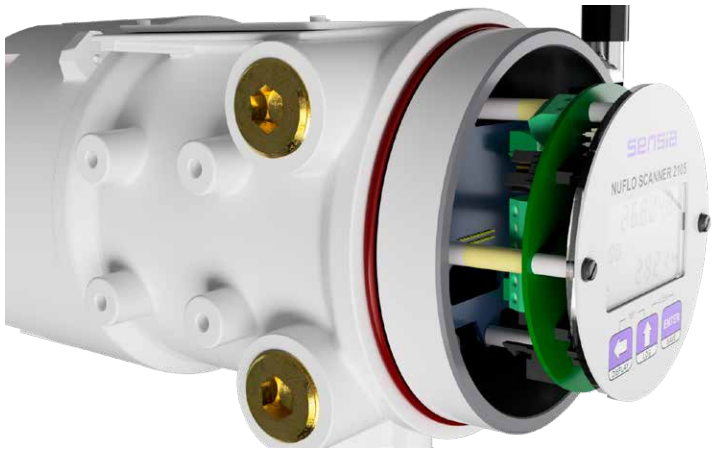

Figure 5.3 - LCD/keypad screw locations
2. Remove the two #4-40 × 7/8" screws located to the right and left side of the display (Figure 5.3).
2. Remove the two #4-40 × 7/8" screws located to the right and left side of the display (Figure 5.3, pg. 88).